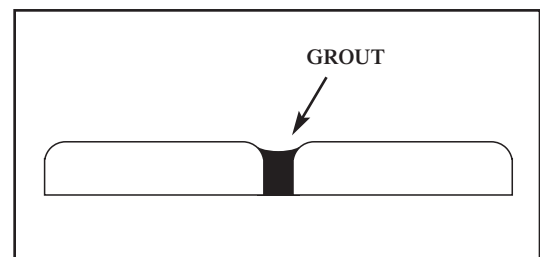

Fig. 11 - The finished grout line width is wider than the space between the tiles.
- The desired grout line width should be determined prior to starting the flooring installation. It is important to understand that the finished grout line will be 1/16" to 3/32" wider than the space between the tiles, since the grout will extend onto part of the radius along the top edge of the tile (Fig. 11).